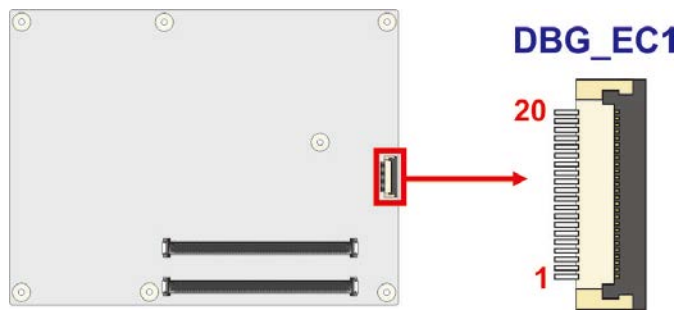

Figure 3-8: EC Debug Port Location
- CN Location:** See **Figure 3-8**